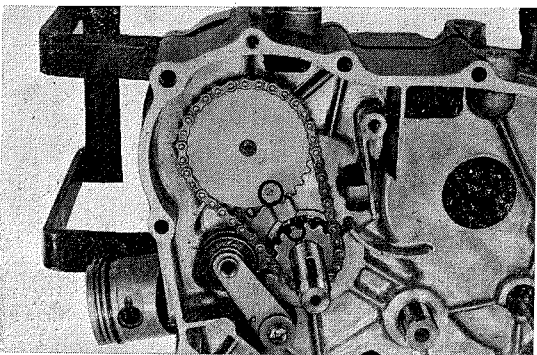

Fig. 46 Cam shaft installation
1. Install the cam shaft with the timing sprocket. Turn the crankshaft so that the piston is at top-dead-center and then align the "O" mark on the cam sprocket to the punch mark on the timing sprocket. (Fig. 46)